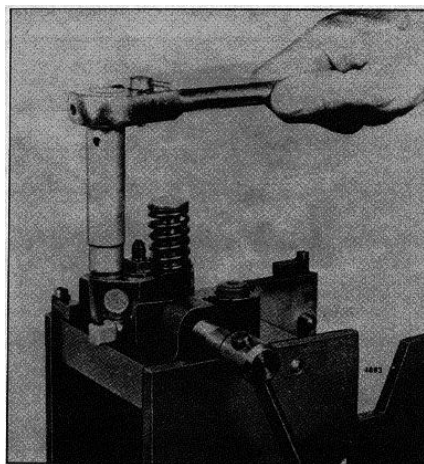

Fig. 23. Removing or Installing Filter Cap
1. Support the injector upright in injector holding fixture J 22396 (Fig. 23) and remove the filter caps, gaskets and filters.